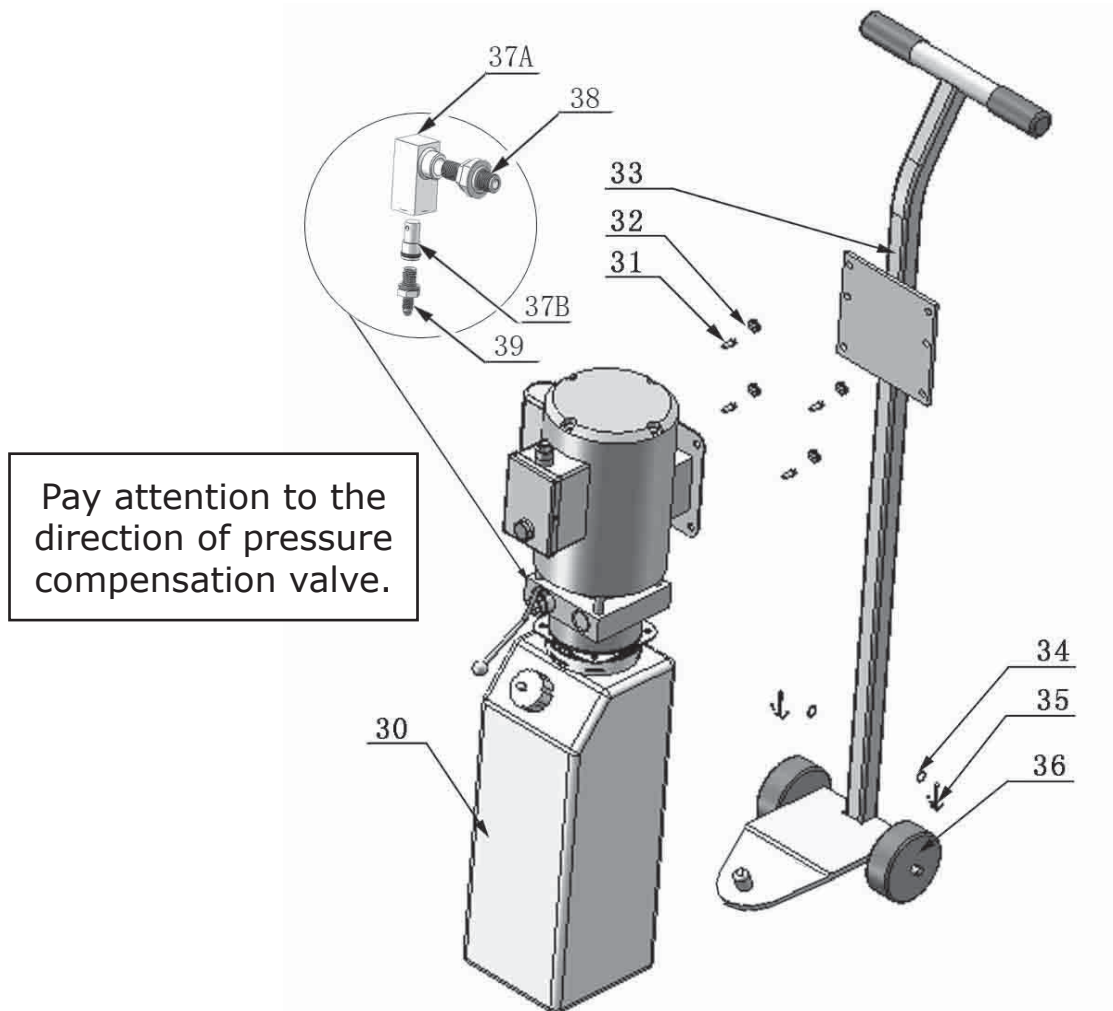

Fig. 6
B. Install hydraulic power unit and pressure compensation valve assembly (See Fig. 6).